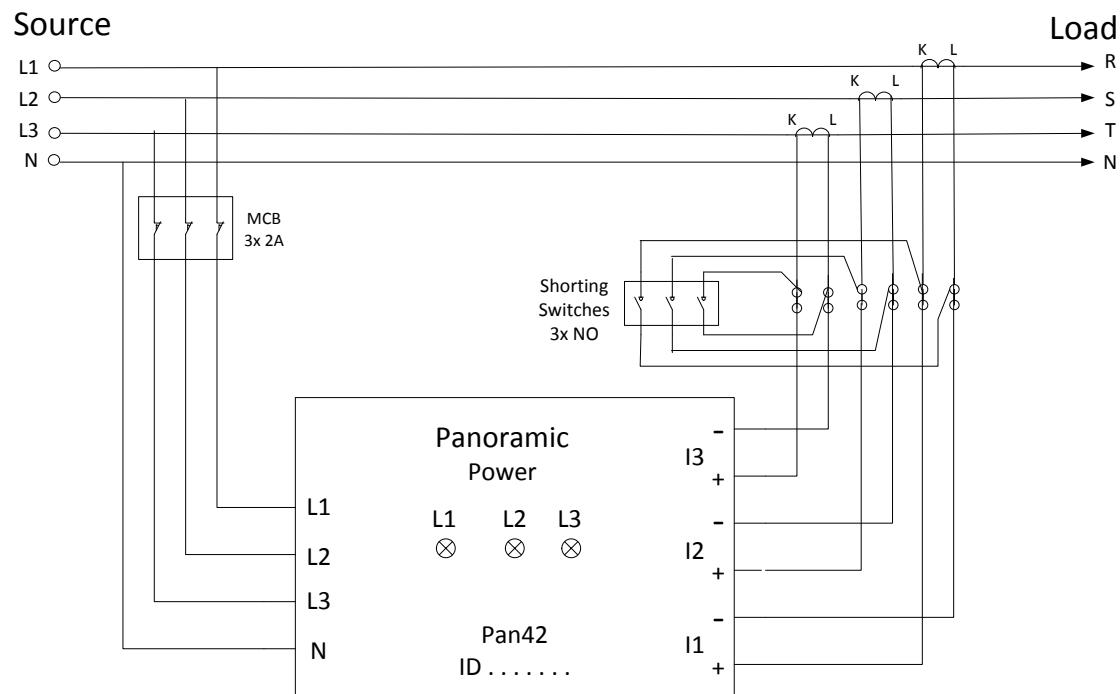

Figure 2. PAN-42 connections
- a. Connect one to three phases L1, L2, L3 (R, S, T) and the neutral wire to the appropriate PAN-42 inputs, making sure each phase passes through an MCB (see Figure 2).